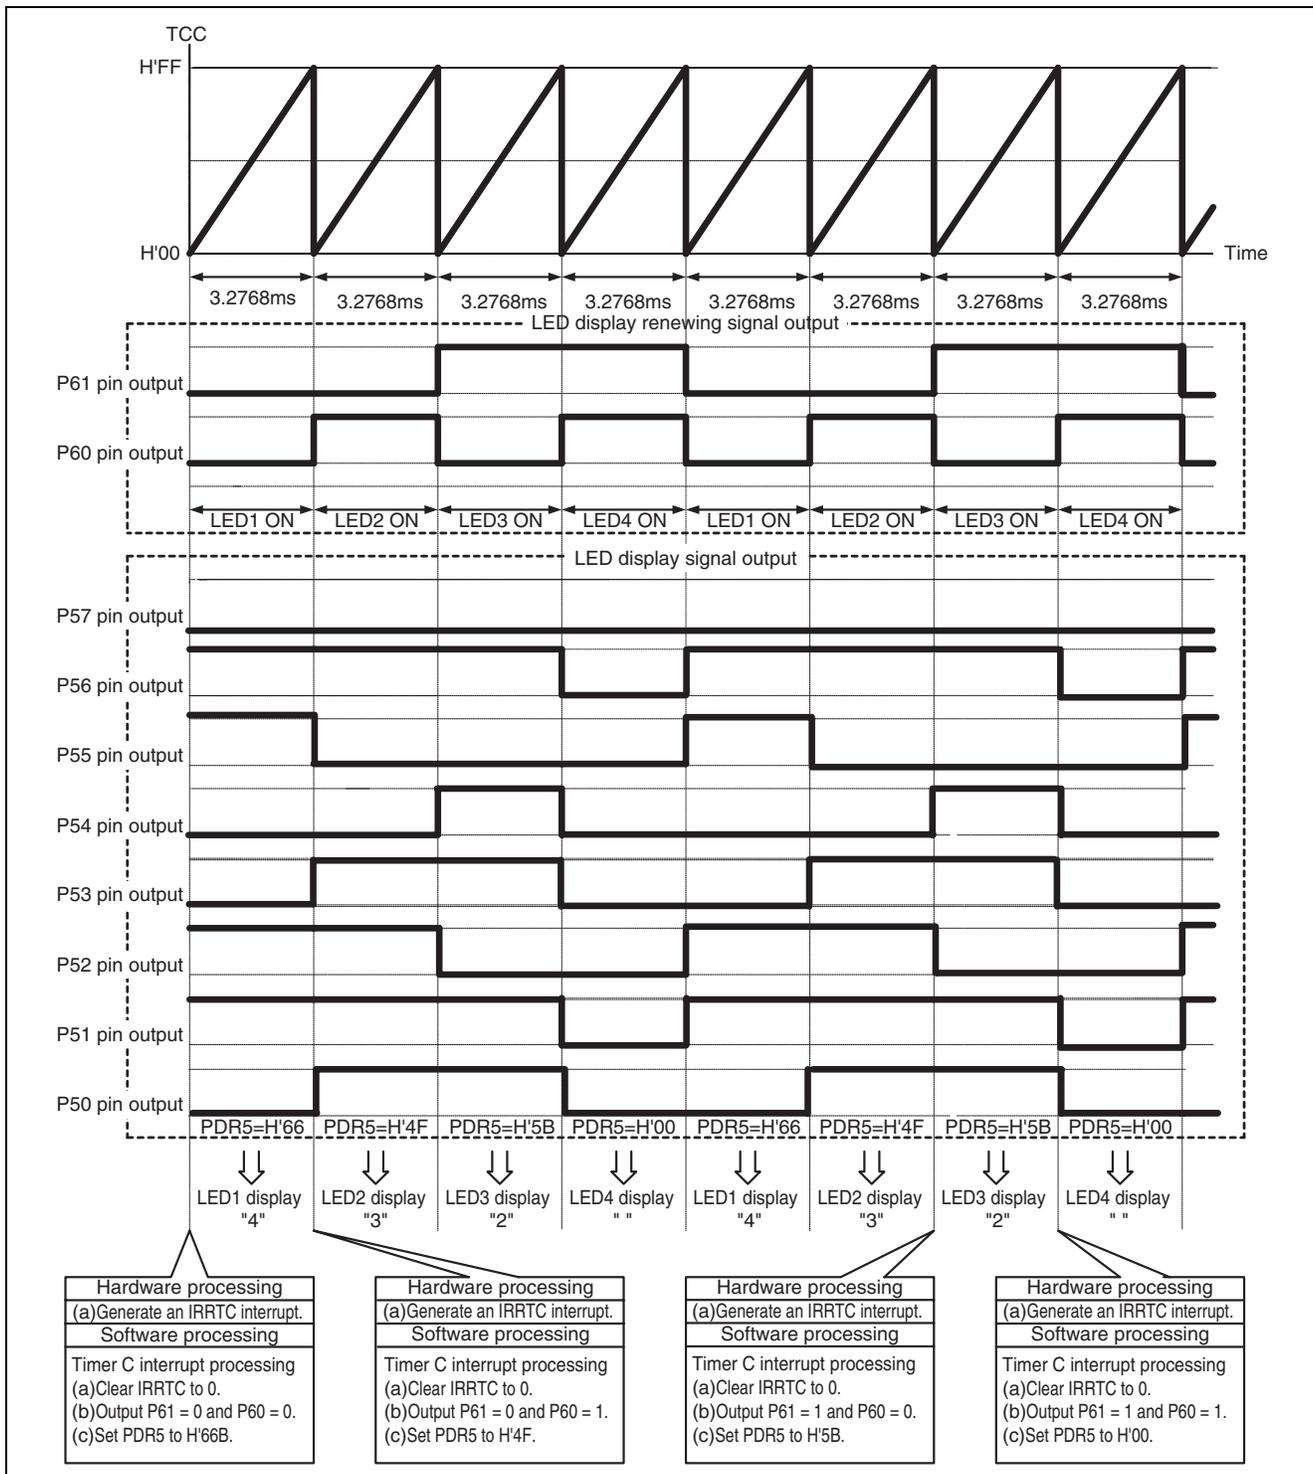

Figure 8 Description of 7-Segment LED Display Control
2. The following describes the descriptions of 7-segment LED operation. Figure 8 shows how a value of "234" is displayed on LED4 to LED1. As shown in the figure, each of LED1 to LED4 is lit in sequence at the timer C overflow interval, resulting in dynamic display with the 7-segment LED.